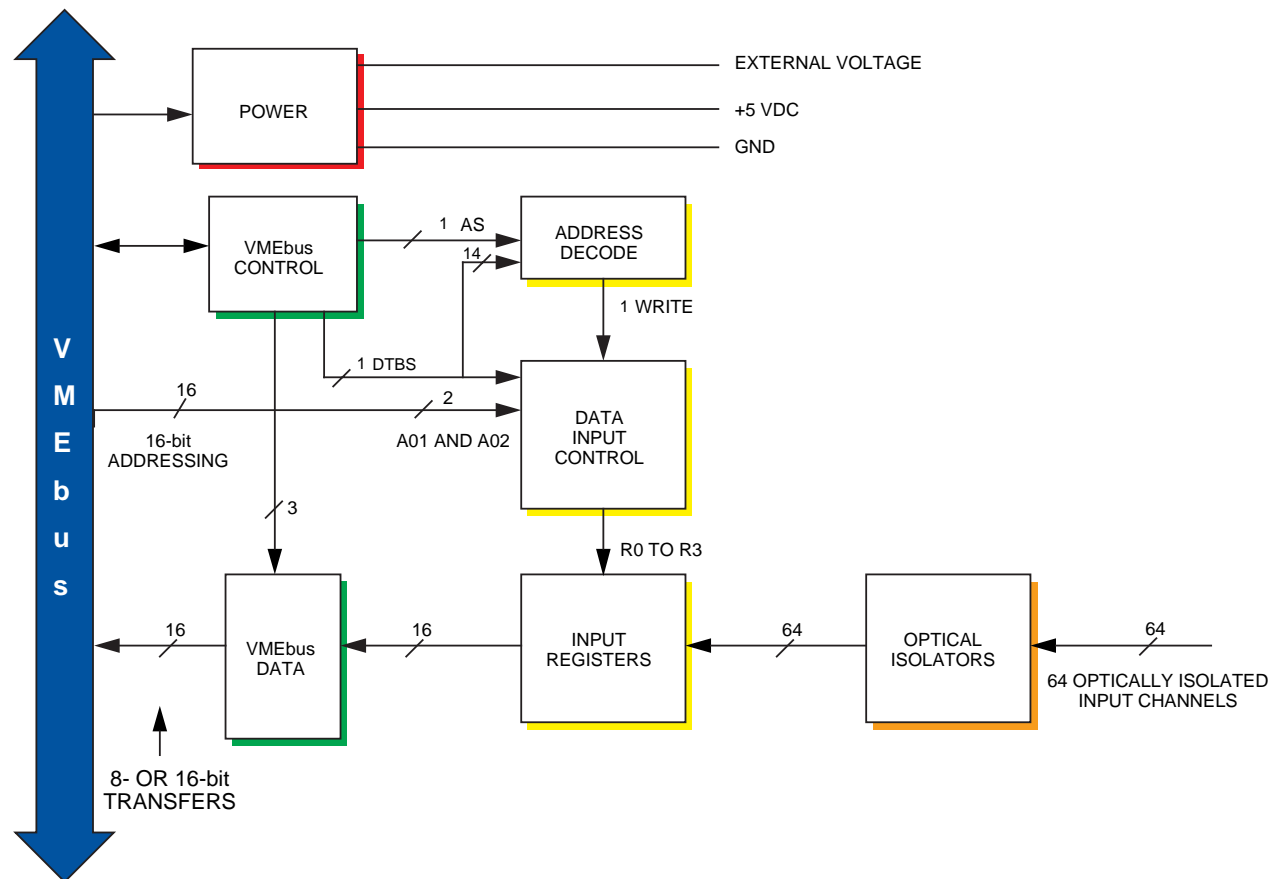

Figure 1. VMIVME-1150 Functional Block Diagram
**Board Function:** This 64-bit optically coupled, digital input board, was designed and optimized specifically for the VMEbus. Featuring high isolation, the VMIVME-1150 provides a flexible, low-cost 8-byte digital input port with high noise immunity. The Functional Block Diagram is shown in Figure 1.